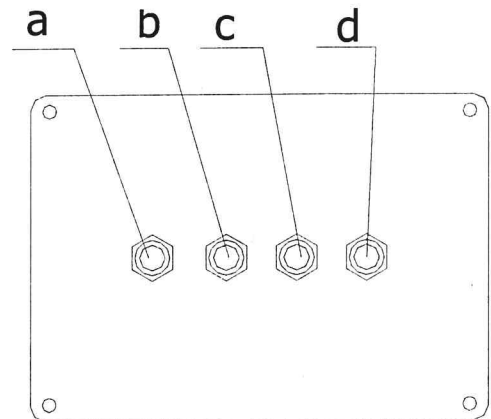

Figure 18
(F) Flow Control Board (Figure 18)
- 6. Adjust the running speed of machine and make it meet printing requirement. This includes the adjustment on the dwell time of pad at each stroke end and the regulator that controls the speed of each cylinder (See Figure 18).